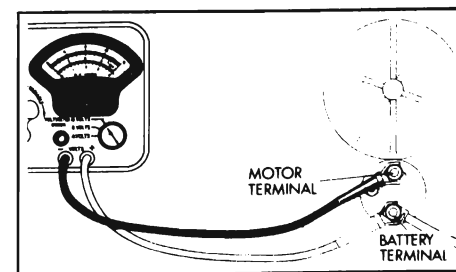

Figure 10-32—Solenoid Switch Contact Test Connections
6. With voltmeter switch turned to any scale above 12 volts, connect voltmeter negative (-) lead to the motor terminal of solenoid switch, and connect positive (+) lead to battery terminal of switch. See Figure 10-32.